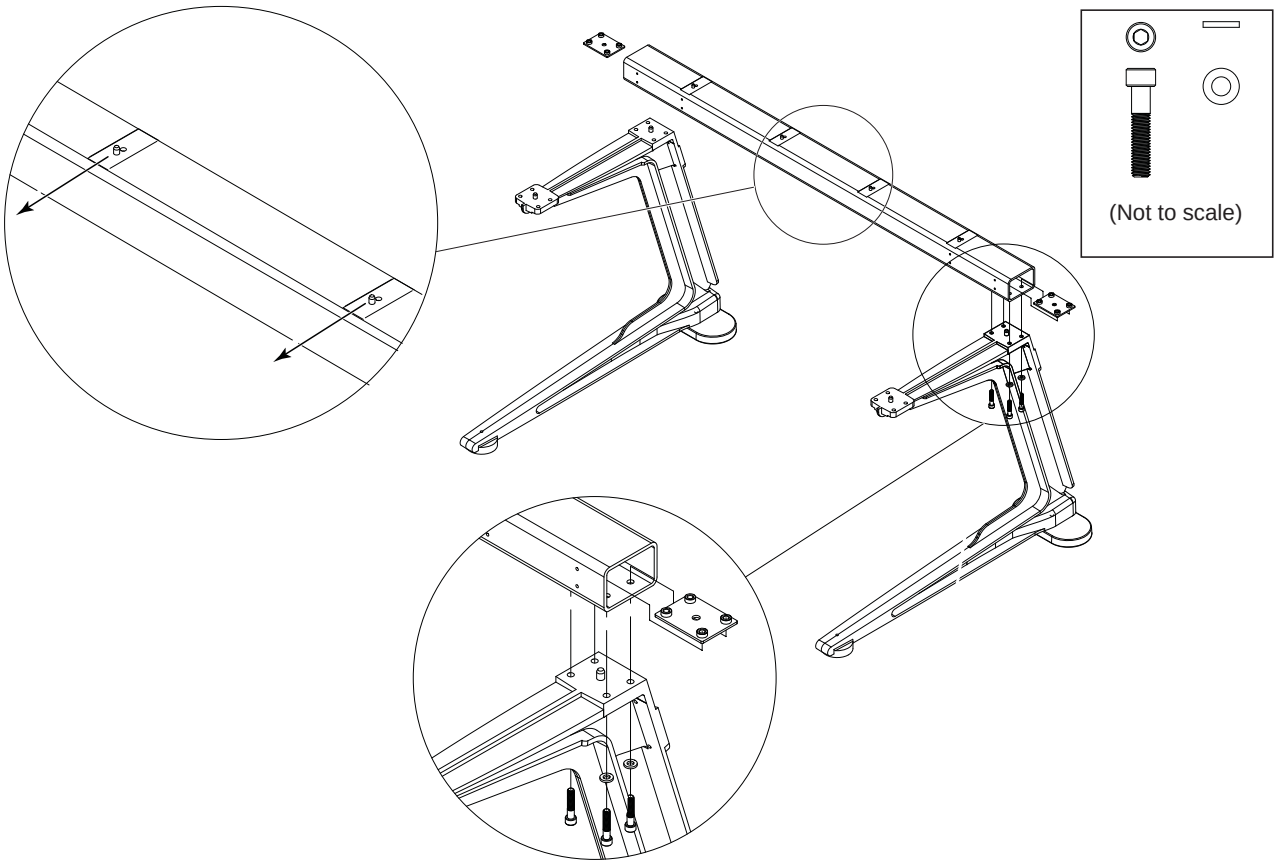

Figure 2. Attaching a Beam to the Legs using a Beam Mounting Plate
- 2 Attach the back beam by doing the following (see Figure 2):